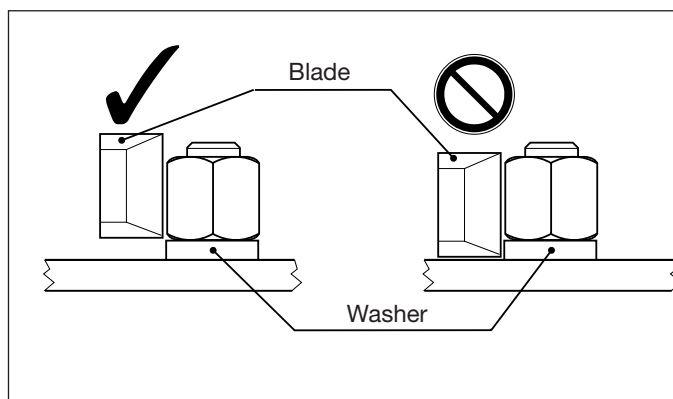

Figure 8: Blade Position
7. Ensure that the underside of the cutting head is seated against the flange, as the blade must cut as close to the bottom of the nut as possible. However, if a washer is present under the nut, position the nut splitter so that the cutting blade will not contact the washer. See Figure 8.